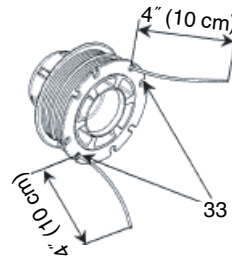

Fig. 39
(4) Push each line into the stopper holes (33), leaving the loose ends approx. 4" (10 cm) in length. (Fig. 39)